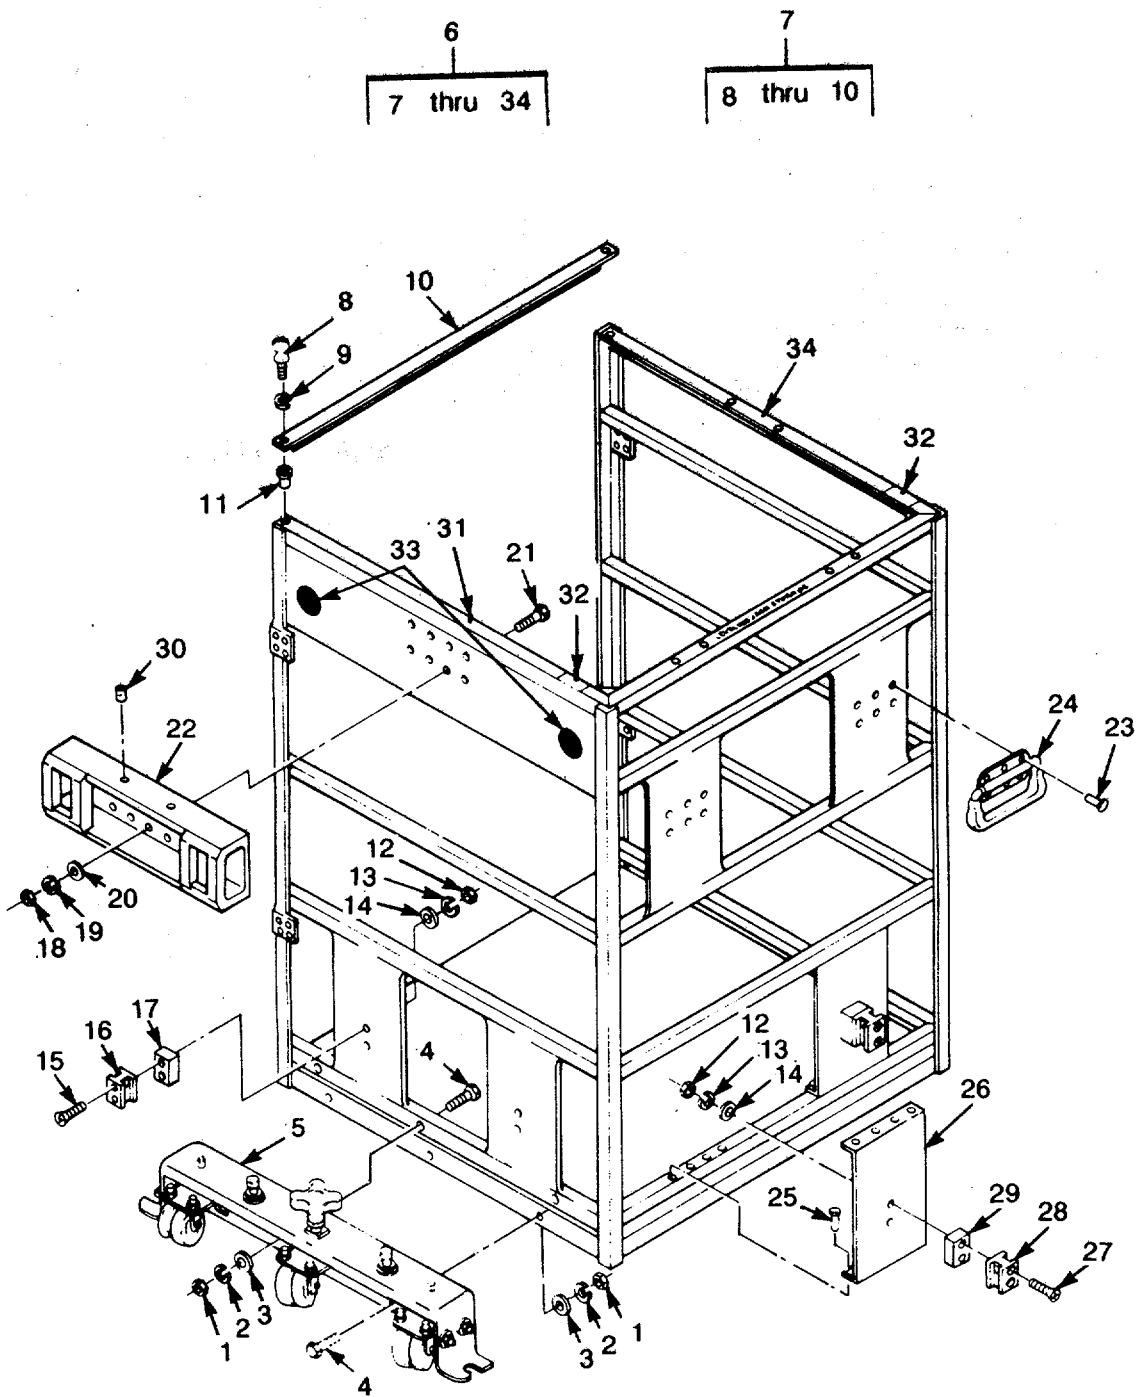

Figure 18. Paper Storage Rack with ISO Jack Storage Assembly
| (1) ITEM NO | (2) SMR CODE | (3) CAGEC | (4) PART NUMBER | (5) DESCRIPTION AND USABLE ON CODES(UOC) GROUP 08 PAPER STORAGE RACK ASSEMBLY WITH TABLE STORAGE FIG. 18 PAPER STORAGE RACK WITH ISO JACK STORAGE ASSEMBLY | (6) QTY |